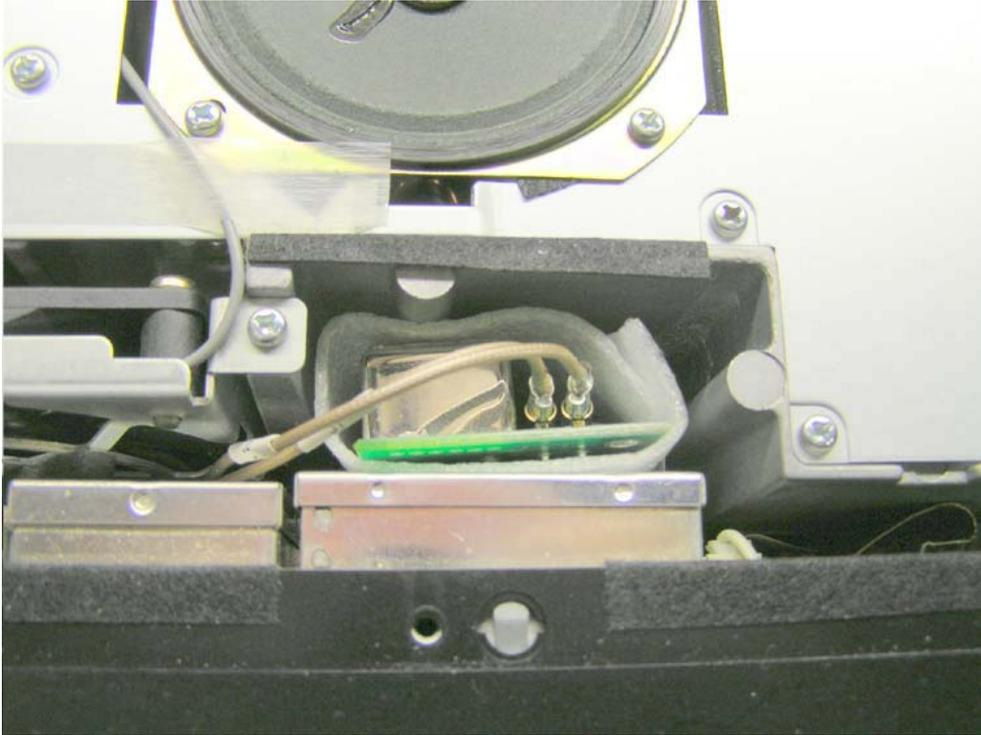

Figure 6. Locating the B+ and Ground connections on the Main Unit.
4. Turn the radio over again. Feed the B+ and ground wires along the inside of the radio near the coax cables. Solder them to the points indicated in Figure 6. They are supplying 7.7 volts and ground to the Inrad mod. The ground wire goes to the center of the three pads. The B+ wire goes to the second (2nd) pin from the end closest to the back of the radio